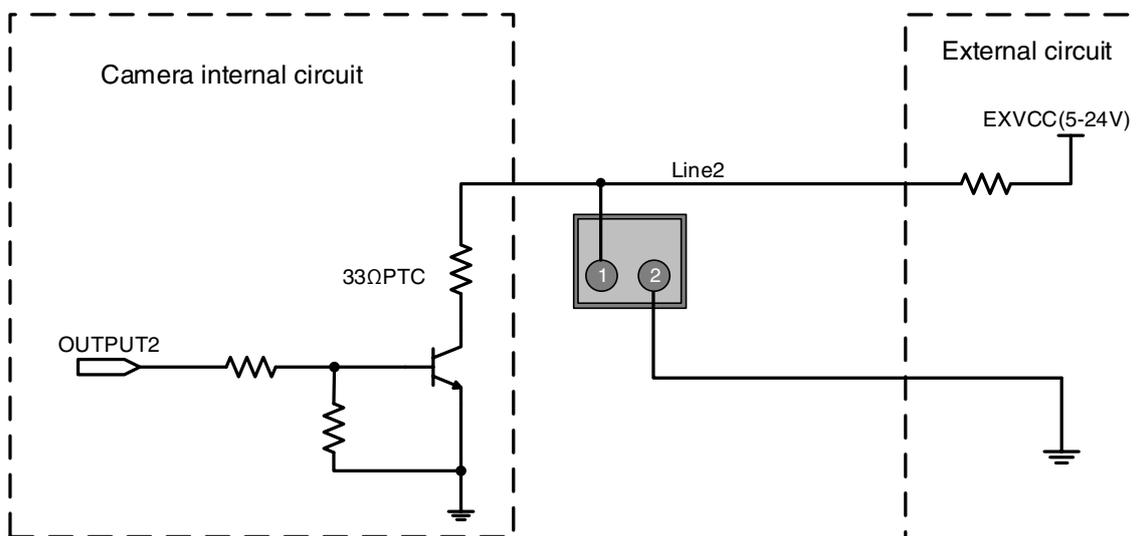

Figure 7-27 Internal equivalent circuit of camera when Line2 is configured as output
- When Line2 is configured as output, the internal equivalent circuit of camera is shown in Figure 7-27, take Line2 as an example